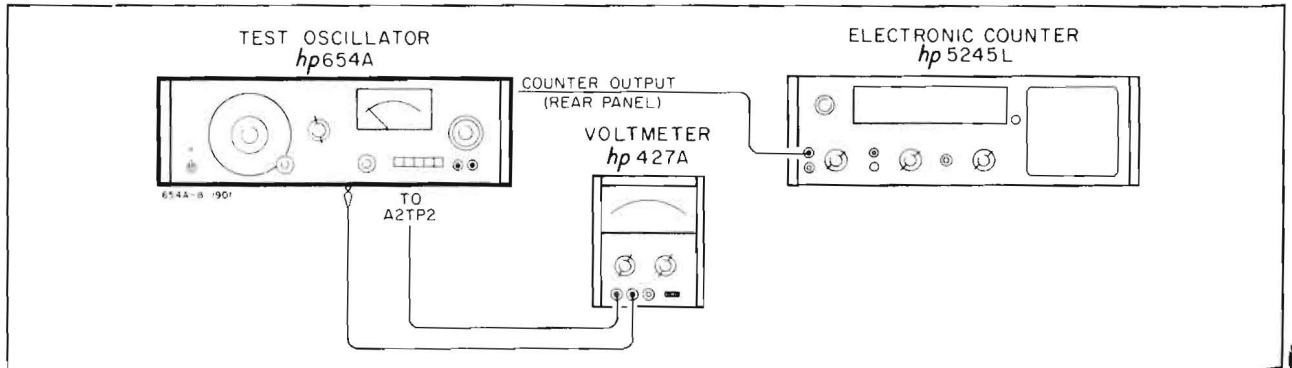

Figure 5-15. Frequency Calibration Test Setup
- a. Connect the equipment shown in Figure 5-15.
- b. Connect equipment as shown in Figure 5-15 and set the 654A controls as in Paragraph 5-50b. Record output frequency.
- a. Connect the equipment as shown in Figure 5-15. Set the 654A controls as in Paragraph 5-50b.
- a. Connect the equipment as shown in Figure 5-15.
- a. Connect the equipment as shown in Figure 5-15. Set the 654A controls as in Paragraph 5-50b except set FREQUENCY RANGE to X100K and FREQUENCY dial to 1.